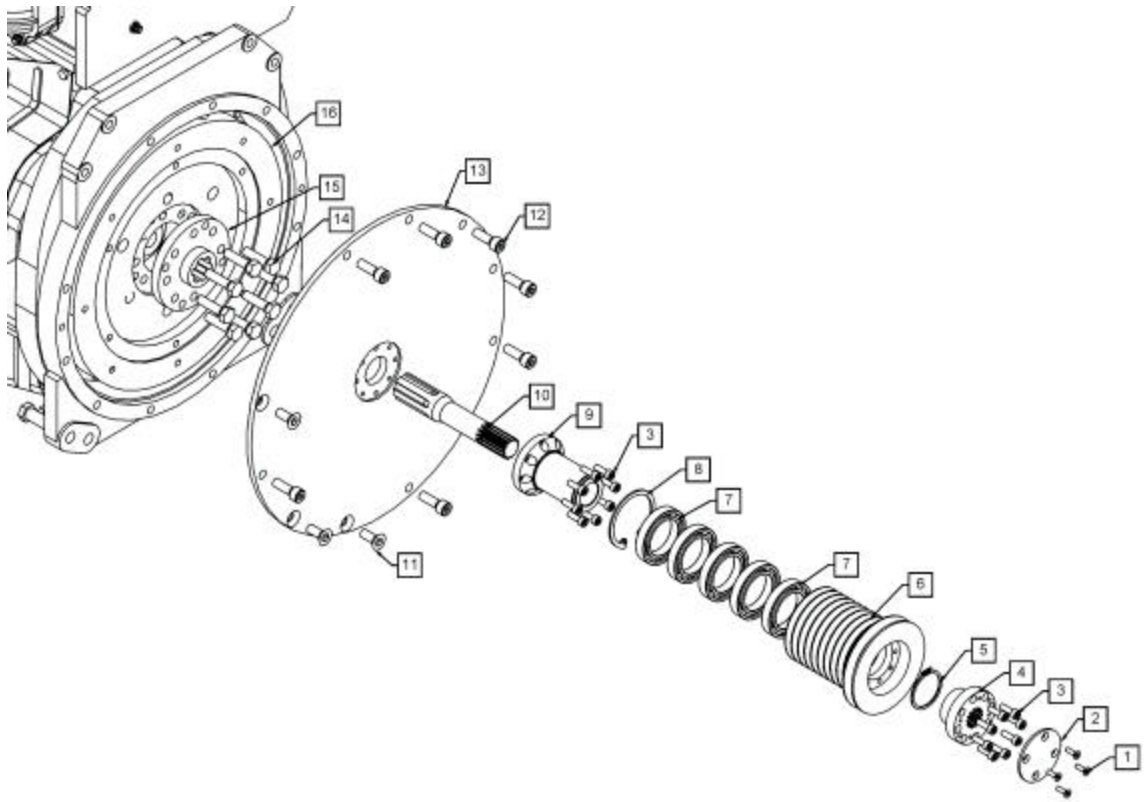

Fig. 36 — PTO Drive Sheave/Bearing Assembly
- ◆ Tighten the Puller Bolt (4), to pull the Sheave/Bearing Assembly off of the Bearing Support (**Fig. 36**, #9).